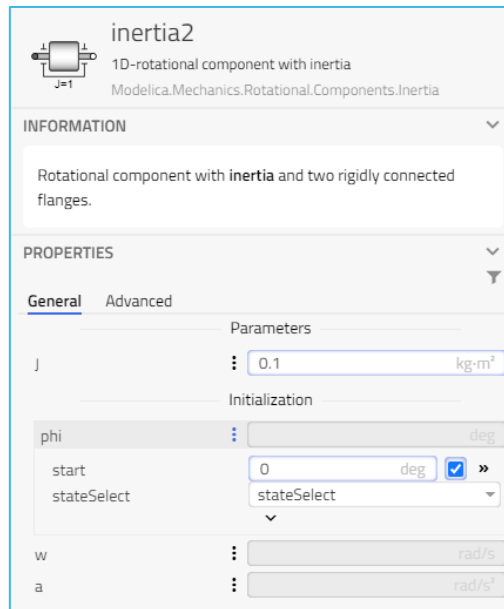

Figure 14 Parameter settings for *inertia2*
- c. Select the **inertia2** component to set its parameters. The parameter sidebar for inertia should look like Figure 14.